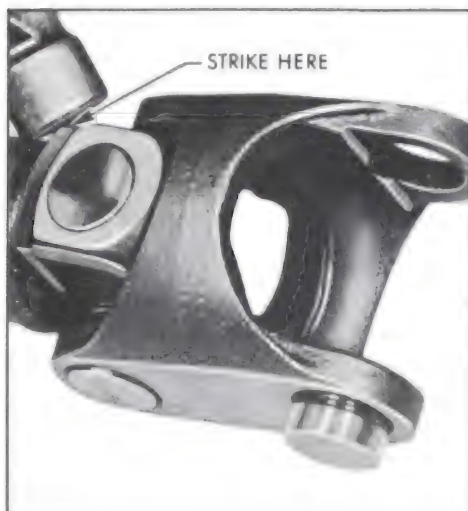

Figure 6-67—Seating Snap Rings
5. Strike the yoke with a hammer to fully seat the snap rings against the yoke. Turn the spider to make certain that it is free. See Figure 6-67.